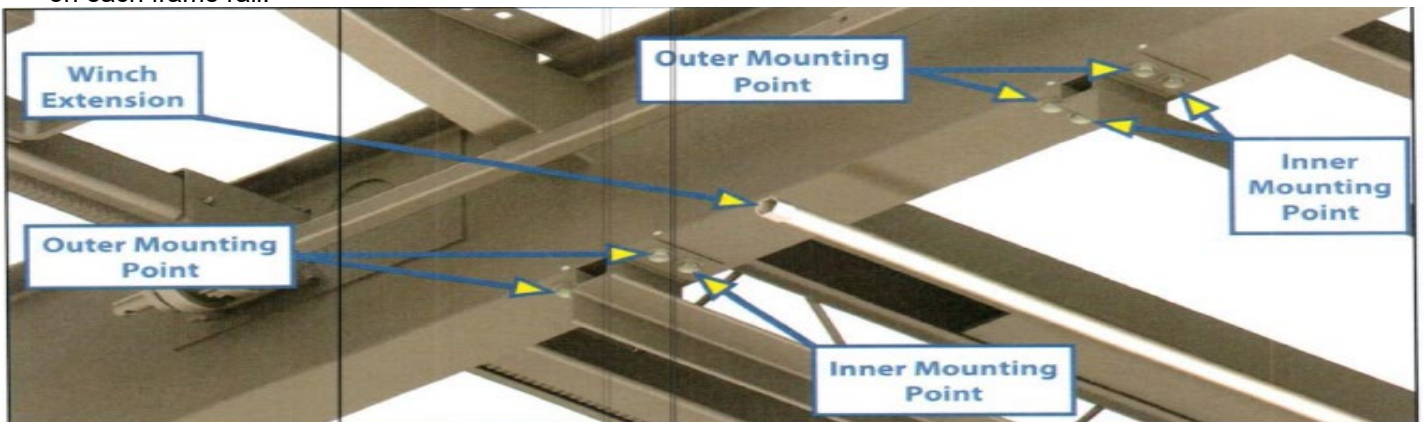

Figure 1
3. Remove the existing screws, one at a time, and install the proper 5/16" x 3/4" self-drilling screws in their place in the inner holes of the brackets (Figure 1). Four (4) on each frame rail. Make sure the winch extension is visible underneath the main rails.
4. Drill 11/32" mounting holes for bolts using the outer holes of the brackets for a guide (Figure 1).
5. Insert eight (8) 5/16" – 18 x 1" bolts in the outer holes of the brackets, and securely fasten with nylon lock nuts. Four (4) on each frame rail.